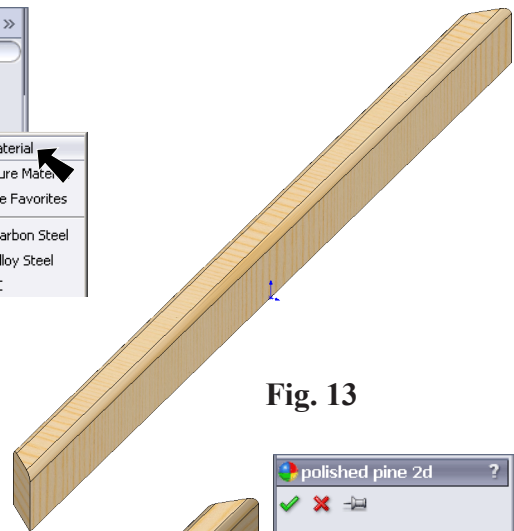

Fig. 13
Step 2. Expand Woods (click the +) in the material tree and click Pine. Click Apply and Close, Fig. 13.